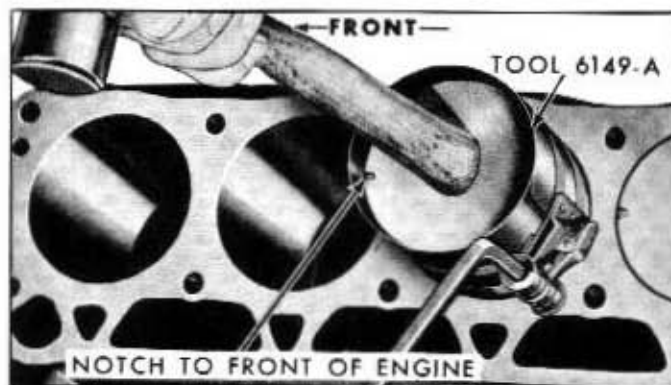

Fig. 6A-85—Piston Installation—(60C-5648)
4. Make sure the ring gaps are properly spaced around the circumference of the piston. Install a piston ring compressor on the piston and push the piston in with a hammer handle until it is slightly below the top of the cylinder. See figure 6A-85. Be sure to guide the connecting rods to avoid damaging the crankshaft journals. Install the piston with the notch in the piston head toward the front of the engine.
8. After the piston and connecting rod assemblies have been installed, check the side clearance between the connecting rods on each crankshaft journal as shown in figure 6A-48 under "Engine Assembly" in this section.